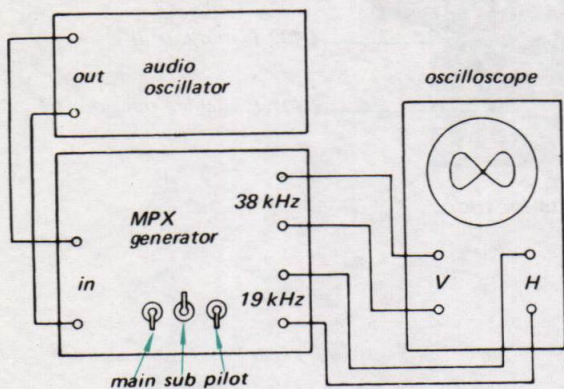

Fig. 3-9. MPX generator preadjustment
1. With the equipment connected as shown in Fig. 3-9, set the MPX and audio signal-generator's control as follows: